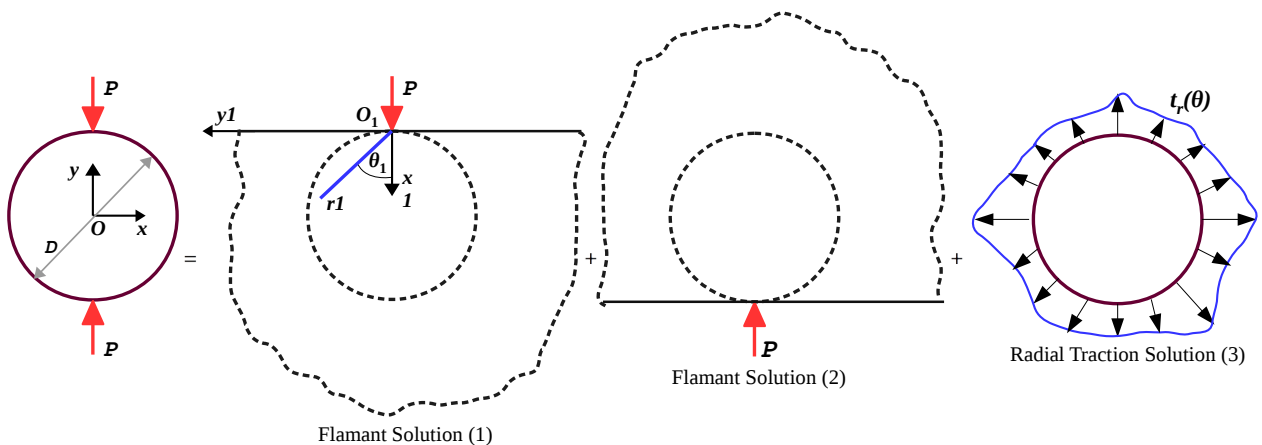

Figure 4: Problem 4
4. As shown in Figure 4, a linear elastic disc under diametrical compression can be decomposed into three parts viz. Flamant Solution (1), Flamant Solution (2) and Radial Tension Solution (3). The Airy stress function corresponding to the Flamant Solution (1) is given as,
where  $P$  is the force per unit out-of-plane thickness.  $r_1, \theta_1$  is as described in the image corresponding to Flamant Solution (2) in Figure 4. Disc has uniform thickness and diameter  $D$ .
- Write down the boundary conditions for the disc shown in the first image of Figure 4. **(2 marks)**
- Express the Airy stress function  $\phi_1$  given above in terms of cartesian  $x$ - $y$  co-ordinate system as shown in the disc image of Figure 4. Origin  $O$  coincides with the centre of the circular disc. **(3 marks)**
- Calculate the in-plane components of stresses  $\sigma_{xx}, \sigma_{yy}, \sigma_{xy}$  for Flamant Solution (1) using the answer to previous sub-question. **(6 marks)**
- Use the answers to previous two sub-question and estimate the solution to Flamant Solution (2). **(4 marks)**
- Does the combination of Flamant Solution (1) and Flamant Solution (2), satisfy the boundary conditions for the disc as noted in sub-question (a)? Justify your answer. If not, find out the radial traction distribution  $t_r(\theta)$  to be applied to the disc boundary as depicted in the Radial Traction Solution (3) to ensure that the boundary conditions as stated in sub-question (a) are ensured. **(5 marks)**